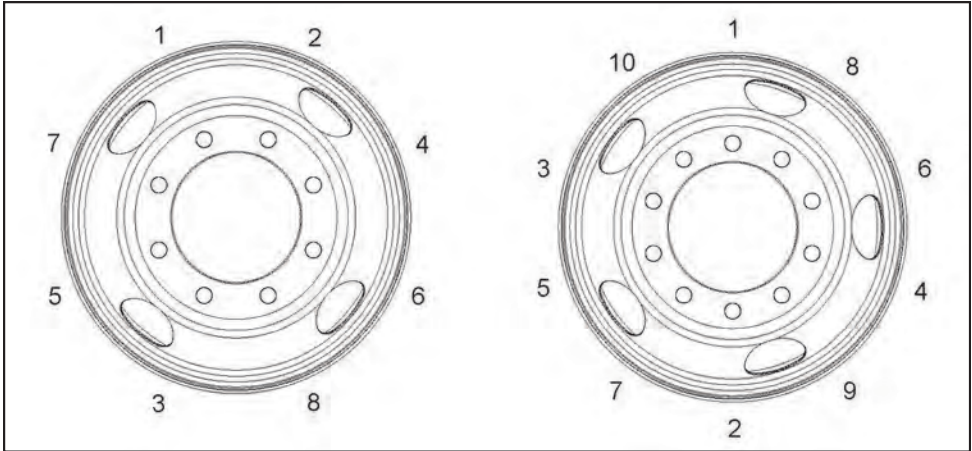

Figure 16. Disc Wheel Installation
4. Tighten nuts fully, using a crossing pattern as shown above in (Figure 16). Be sure to tighten nuts only to the recommended torque. For correct wheel lug nut torque see page 71.